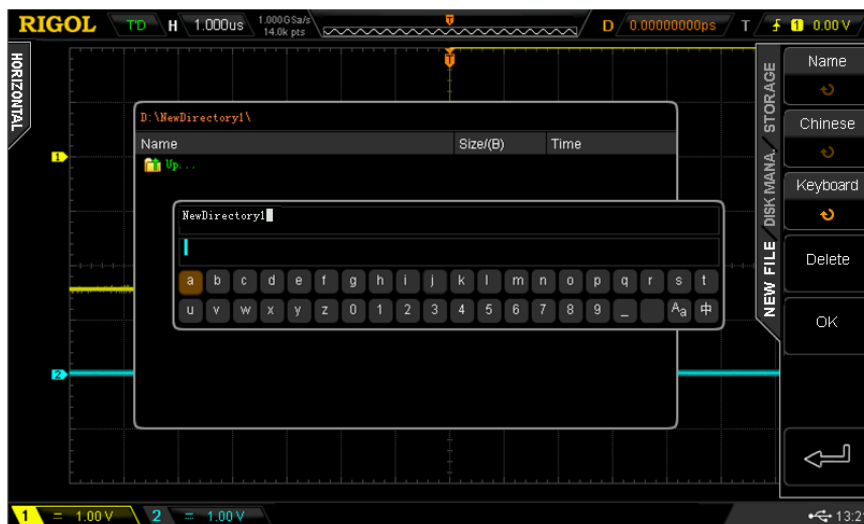

Figure 12-5 External Disk (To Create a New File)
- 4) After the storage position is selected, press **New File** to turn on the interface as shown in Figure 12-5. Refer to the descriptions in **"To Create a New File or Folder"** to create a new file.